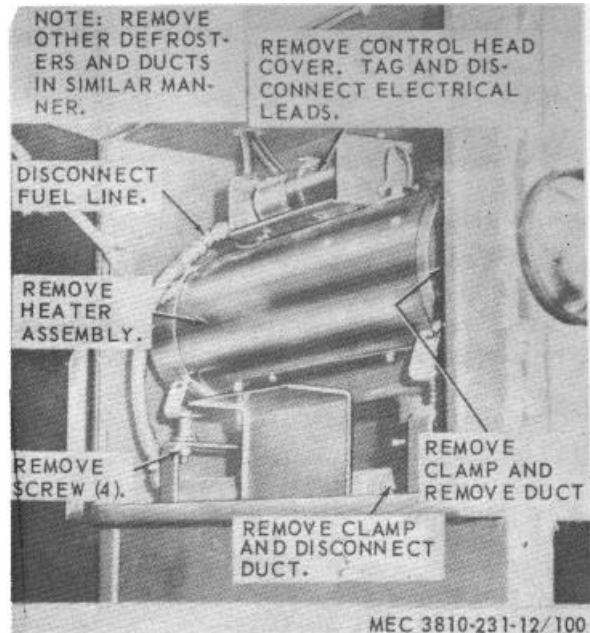

Figure 100. Cab or component fresh air heater, removal and installation.
a. *Removal.* Refer to figure 100 and remove cab or component fresh air heater.
- (1) Clean all parts with an approved cleaning solvent and dry thoroughly.
- (2) Inspect all parts for distortion, wear, or other damage. Replace a defective heater or mounting hardware.
c. *Installation.* Refer to figure 100 and install cab or component fresh air heater.